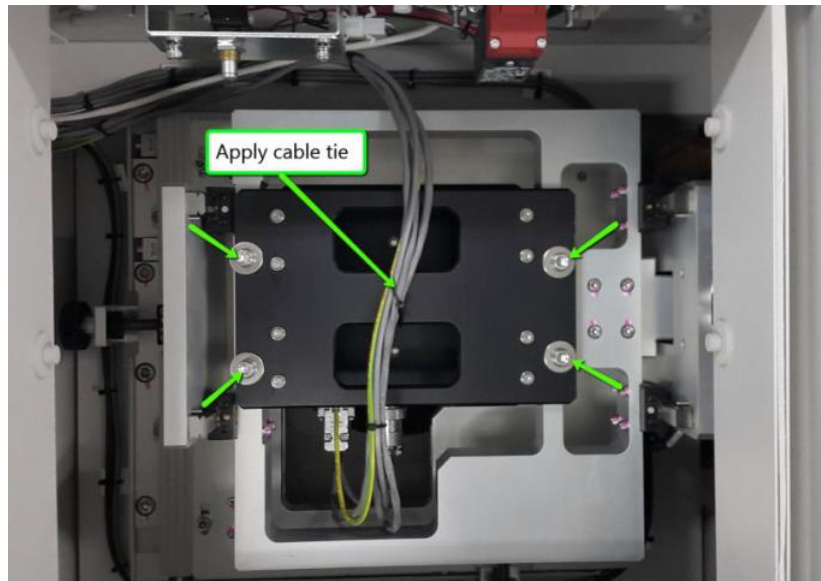

Figure 12
13. Assemble tube into machine and tighten the SHCS M6×60 (4x) as shown in Figure 12.